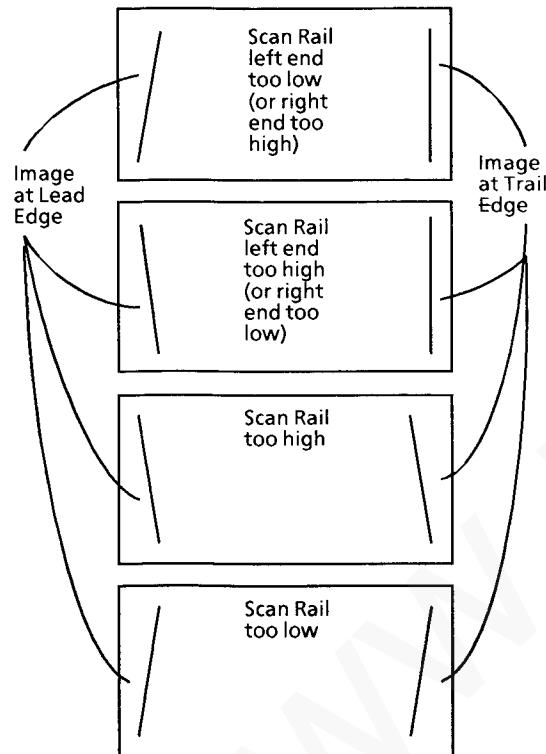

Figure 1. Checking the Image
2. Compare the copy to the examples in the figure below. Go to the Adjustment if the image is skewed as shown below (Figure 1).